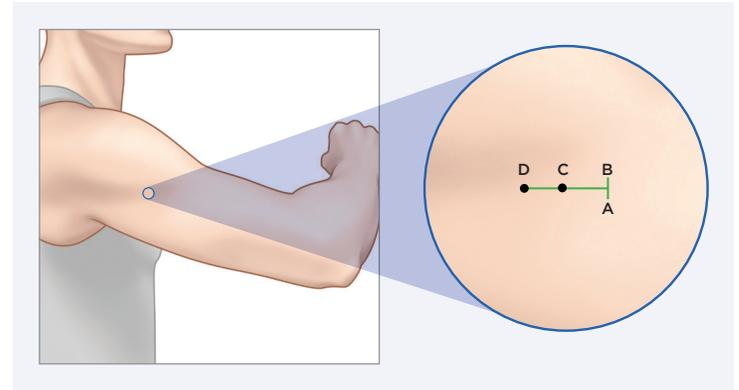

Figure 1
Local anesthesia (approximately 2 mL of Lidocaine) should be injected approximately 5 mm along the planned incision (along AB) and approximately 30 mm perpendicular to the planned incision (along CD) which is the planned track of the blunt dissector tool. (Figure 1).
Start incision at point B (Figure 1) and go towards point A, until the incision is approximately 5 mm.
2. Remove the blunt dissector from the tray and introduce the blunt dissector at approximately a 45 degree entry angle at the midline between A and B (Figures 1 & 2) so that the tip and tapered portion of the blunt dissector are under the skin, and until the depth guards are touching the skin.